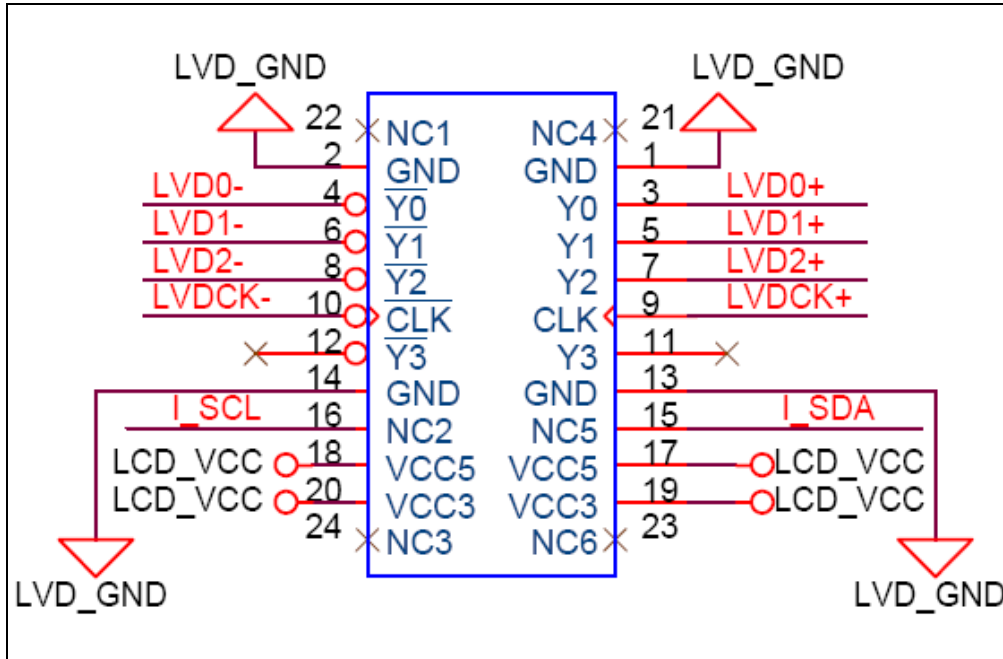

Figure 4-15: TFT LCD LVDS Connector Pinout Locations
- CN Location:** See **Figure 4-15**